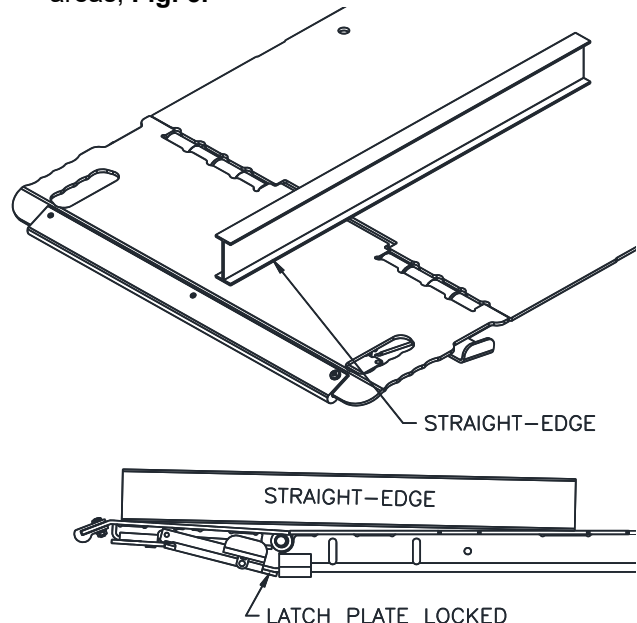

Fig. 5 LEVELING THE RAMPS WITH A STRAIGHT- EDGE
5. Raise each Ramp until the Latch Plate located beneath the Ramp locks into the base of the Platform. Raise the lift to full height so adjustments can be made to the bottom of the Ramps. Place a straight-edge (2 ft. minimum) fore-&-aft across one of the Ramp Hinge areas, **Fig. 5**.
6. Slightly loosen the four (4) Flat-Head Screws securing the Movable Saw Tooth Adjustment Bar, **Fig. 6**. Tap on either end of the Adjustment Bar with a hammer to change the pitch of the Ramp. Once the Ramp is adjusted flat with the Platform as indicated by the Straight-Edge, **Fig. 5**, retighten the Flat Head Screws to lock the Adjustment bar into position.